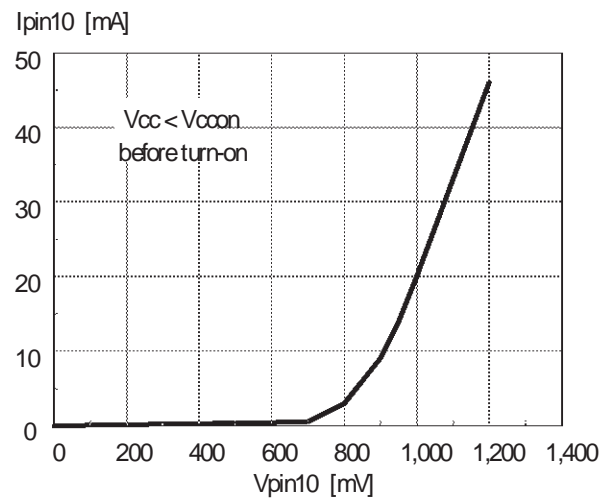

Figure 13. Timing resistor vs. switching frequency.
The oscillation frequency can be established with the aid of the diagrams of fig. 13, where R_T will be intended as the parallel of R_A and R_B in normal operation and $R_T = R_A$ in standby, or considering the following approximate relationships:
from fig. 13 or resulting from (1) and (2).